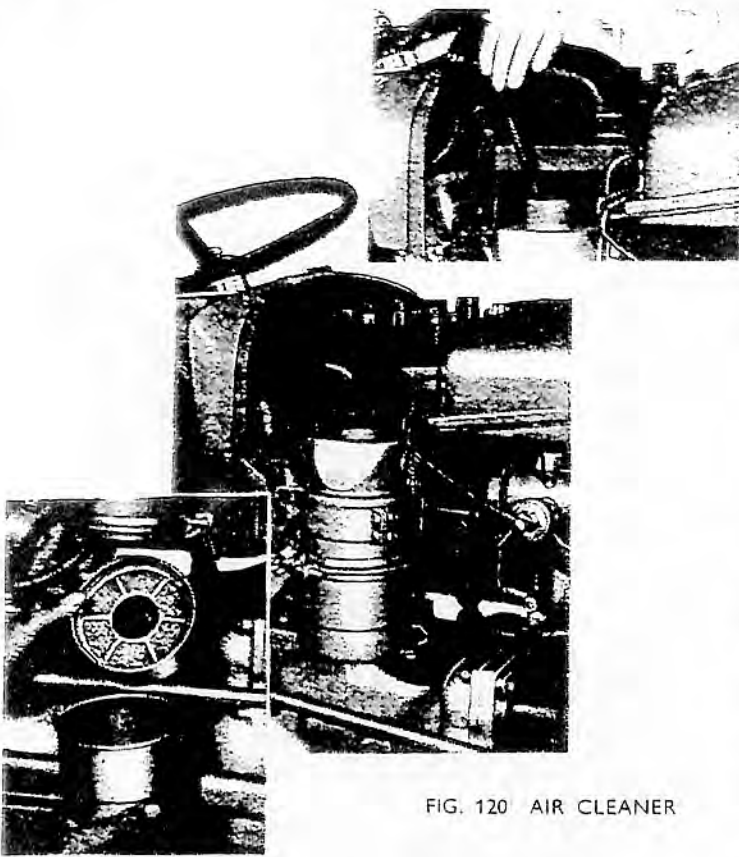
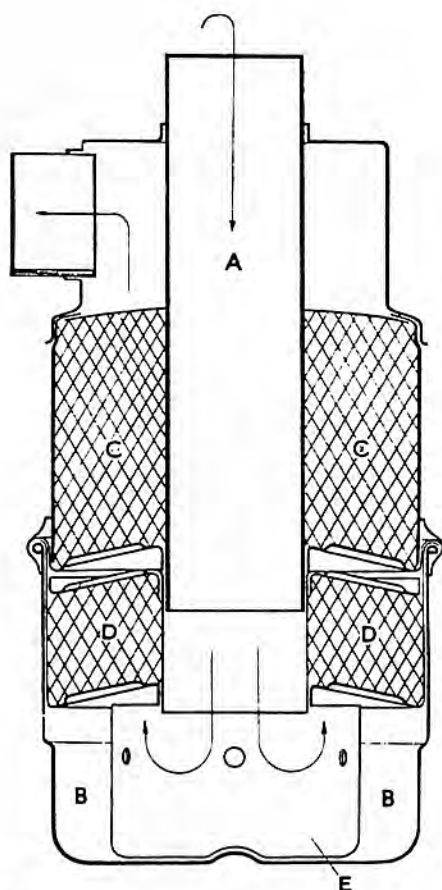

FIG. 120 AIR CLEANER
FIG. 121 CROSS SECTION OF AIR CLEANER
The air cleaner inlet is behind the instrument panel, and the air inlet hose is detachable for cleaning. (See Fig. 120). A section through the air cleaner is shown in Fig. 121. Air entering from the top of the central air duct (A) passes through the oil bath (B) and cleaner elements (C and D), to the outlet pipe which is connected to the engine by a rubber hose.